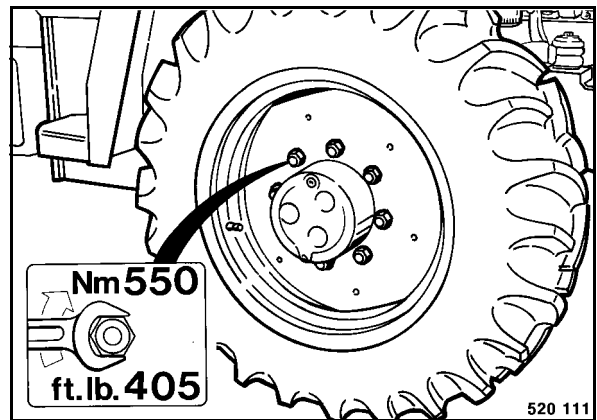

Fig. 113
- Attach the wheel (Fig. 113) and tighten the wheel nuts crosswise with 550 Nm (405 ft. lb.).